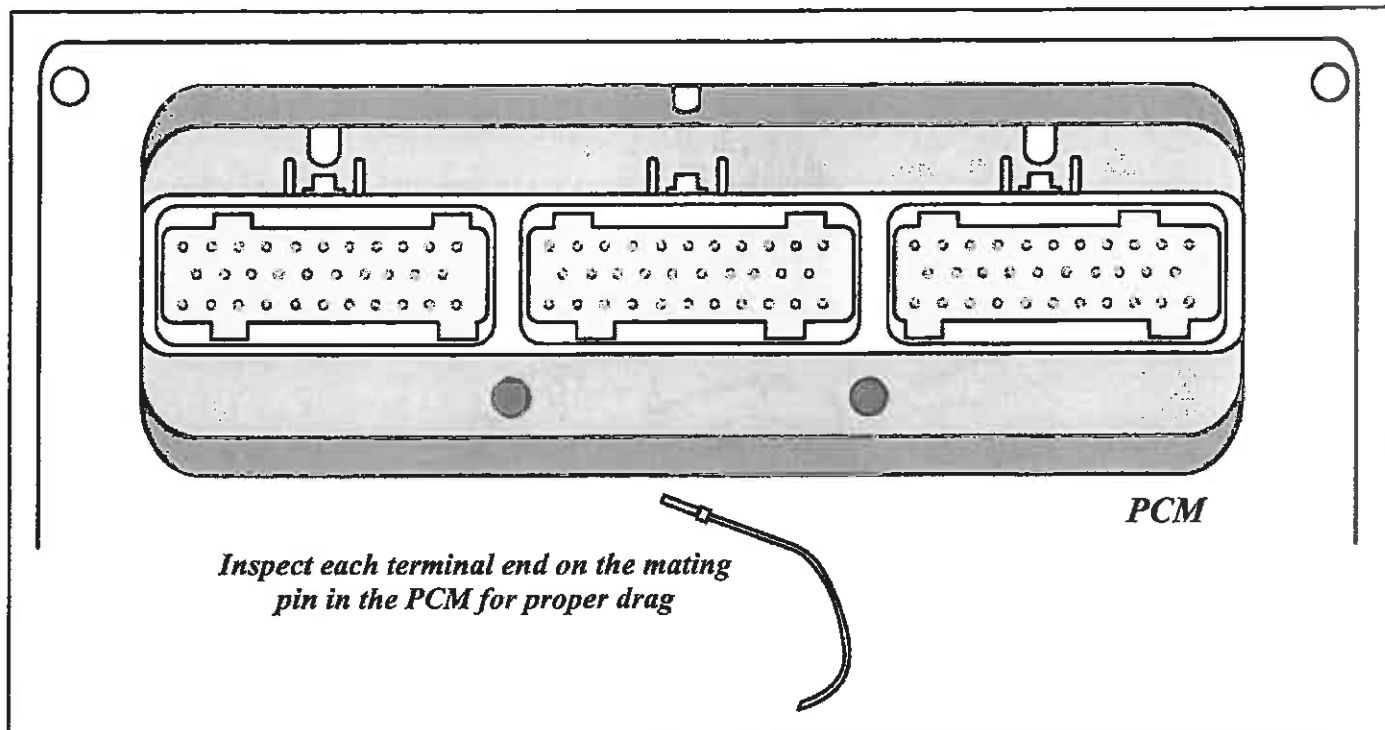

Figure 6
10. While the wires are out of the connector, inspect each terminal end for damage or corrosion. Place each terminal end onto the mating pin in the PCM and check for drag (See Figure 6). If any of the connections are loose, replace the wire.